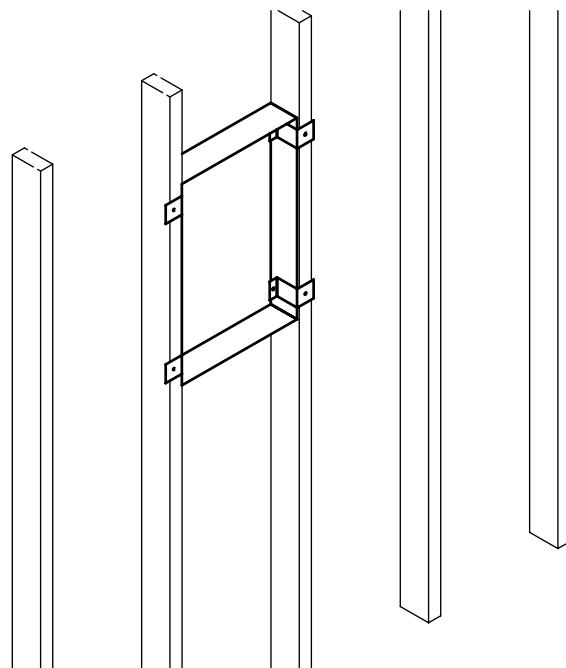

fig. 8
1. Place the backbox in the desired location and secure the side brackets to the face of the studs/ joists with the provided screws (wood studs: #6 x 1" sheetrock screws/metal studs: #8 - 32 x 3/8" Phillips sheet metal screws) . (please see fig. 8)